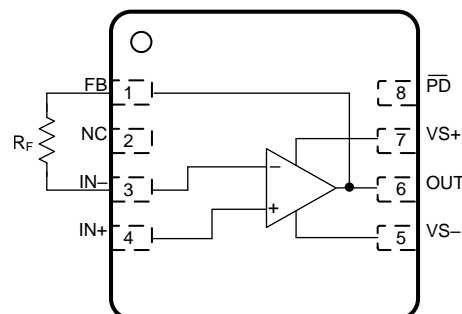

Figure 4.  $R_F$  Connection Between FB and IN- Pins
1. A feedback resistor ( $R_F$ ) can connect between the FB and IN- pin on the same side of the package (see Figure 4) rather than going around the package.